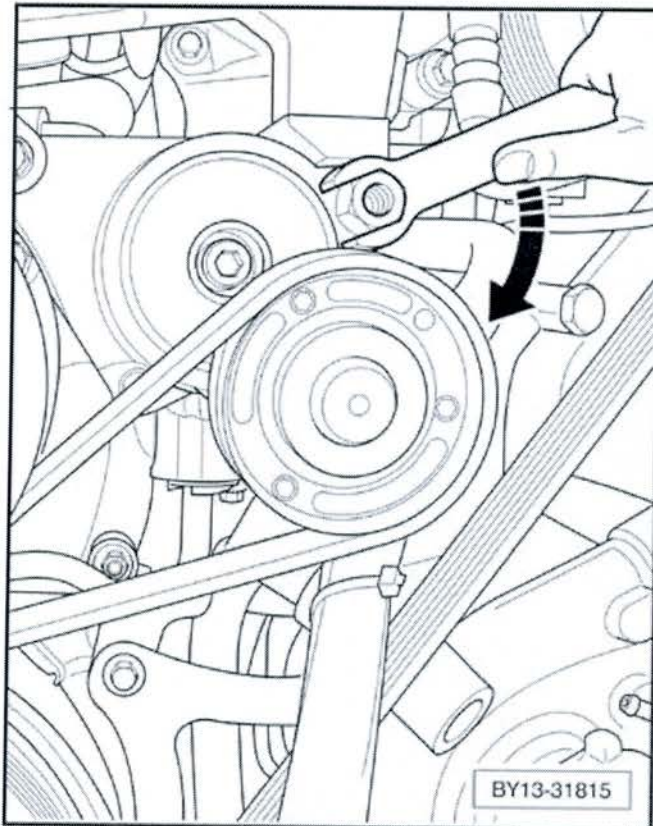

Figure 10
- Hold the belt tensioner pulley off the belt then slide the belt off the alternator pulley finally remove the belt from the other components (see Figure 10)